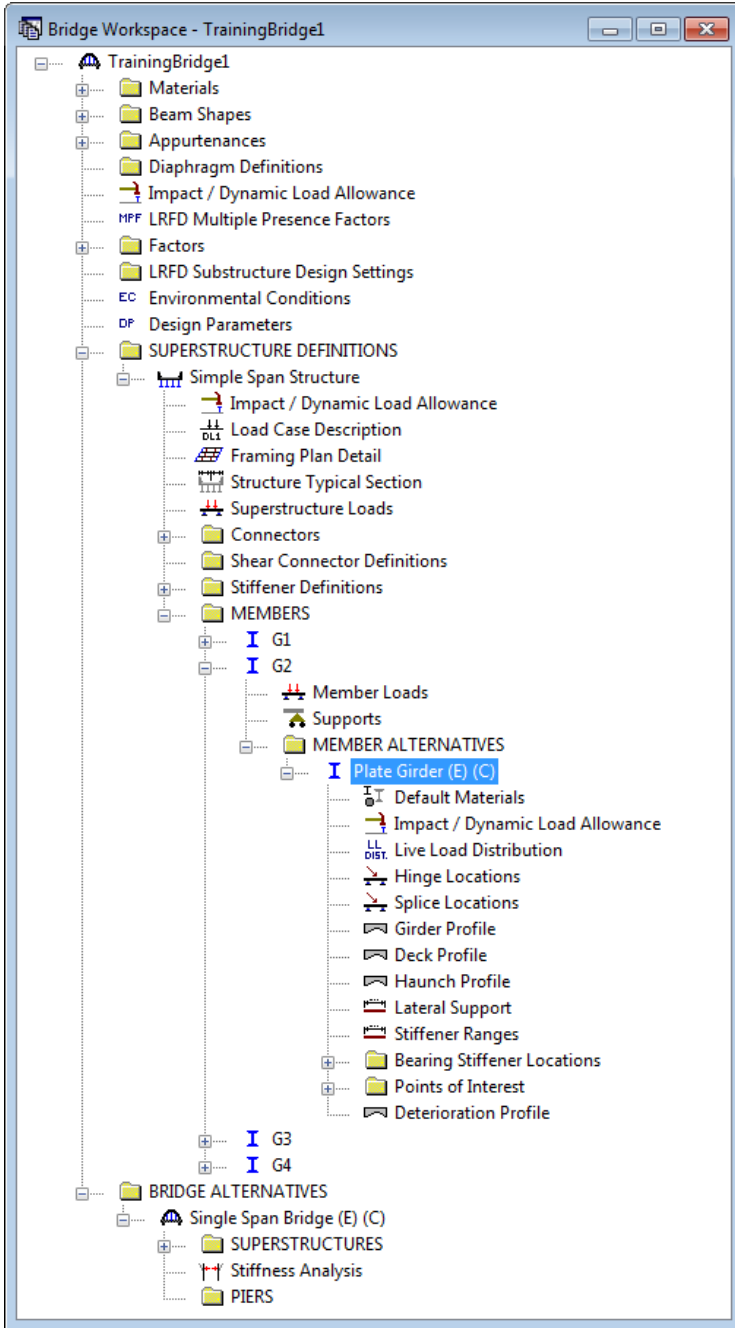

Fig 2. Bridge Workspace Tree - G2 - Girder Member Alternative
Once Bridge Workspace tree shows up, expand “Simple Span Structure” under “SUPERSTRUCTURE DEFINITIONS” in the tree by clicking on “+”. Then expand “MEMBERS” and select “G2”. Expand “G2” and select “Plate Girder (E) (C)” under “MEMBER ALTERNATIVES”. Expand “Plate Girder (E) (C)” by clicking on the “+”. Then the Bridge Workspace tree will be as shown in Fig 2.